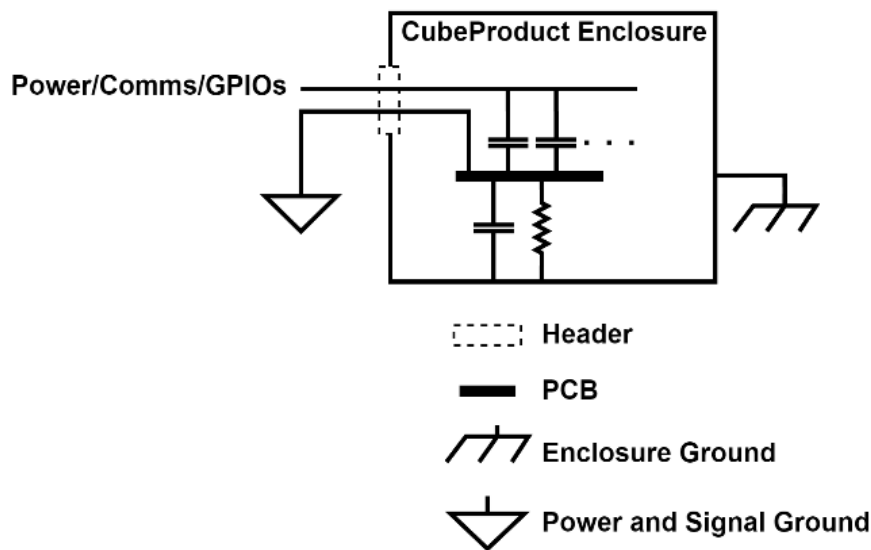

Figure 5: Enclosure Grounding
The enclosure and mechanical parts of CubeStar are connected to the power and signal ground through a filter designed to minimise EMI, as illustrated in Figure 5. The enclosure of CubeStar can be grounded by the user if desired.
- All pins that are externally exposed through headers are filtered by way of 100 pF decoupling capacitors to power and signal ground as shown in Figure 5.